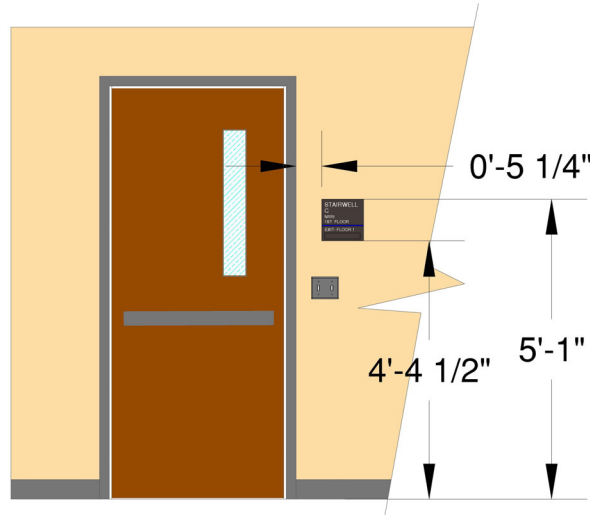

Figure 32.6.1
- 32.6. E2 stairwell identification sign installations at stairwell landing entrance doors shall comply with figures 32.6.1 and 32.6.2